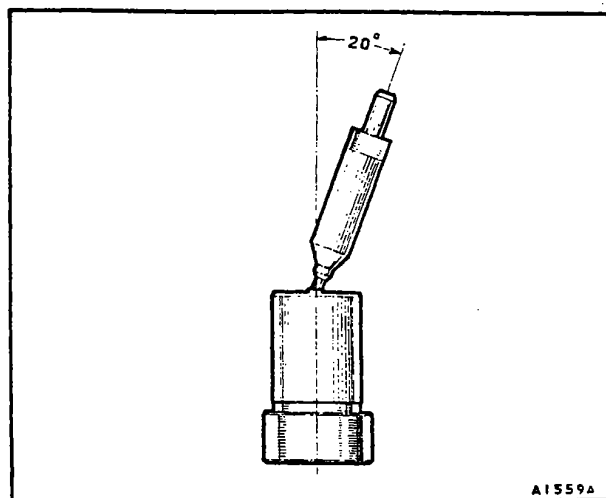

Fig. 1
7. Renew the nozzle assembly if the pintle clearance is excessive when checked as shown in Fig. 1.